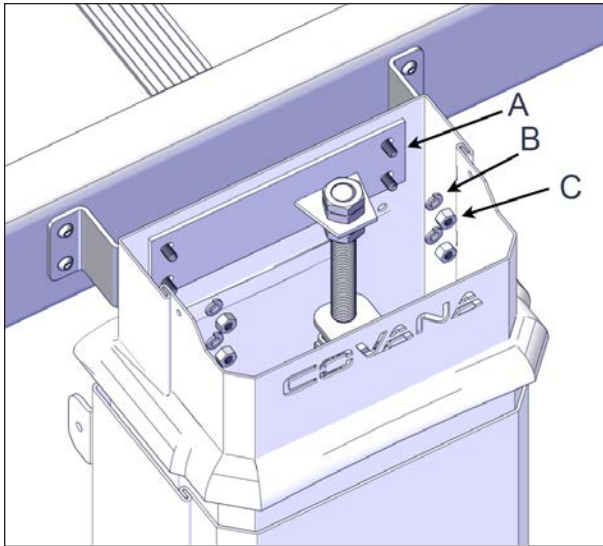

FIGURE 84: SLEEVE INSTALLATION
15. Slide the sleeves over the top of the jacks and fasten them using the 1/4" x 3/4" carriage bolts at the top with 1/4" lock washers and 1/4" nuts. Use a 7/16" (11 mm) socket and spanner, see Figure 84.